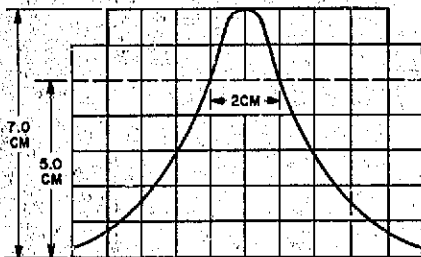

Figure 5-13. IF Bandwidth Adjustment
e. Center display with TUNE and set maximum vertical deflection to exactly 7.0 cm with I.F. GAIN. See Figure 5-13. Display should be 2-cm wide at 5-cm amplitude (half-power points) (sweep width of 851 display is 5 kc/cm). If not within $\pm 20\%$ of the correct bandwidth (1.8 to 2.4 cm at 5-cm amplitude), repeat steps c through e until the correct bandwidth is obtained.
c. Width of display at 5.0-cm axis should be between 1.8 and 2.4 cm. See Figure 5-13.